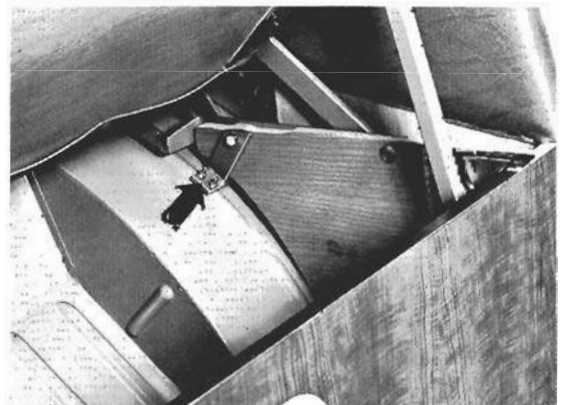

Fig. 7-8. Bracket on wheel housing.
- 3 Remove the nuts indicated in Fig. 7-8. Then, working under the vehicle, remove the studs and plate.